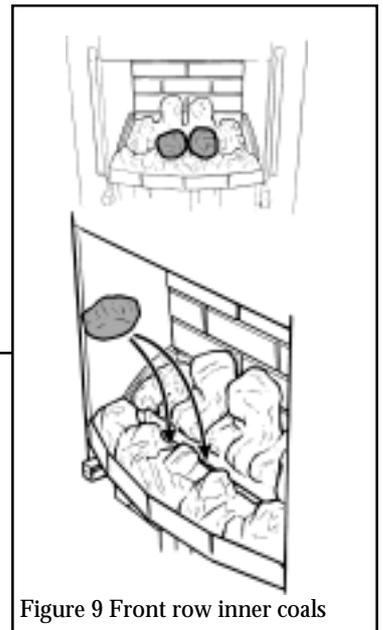

Figure 9 Front row inner coals
**5.1** Select the two largest coals Place them in the central two valleys of the front coal (See figure 9).